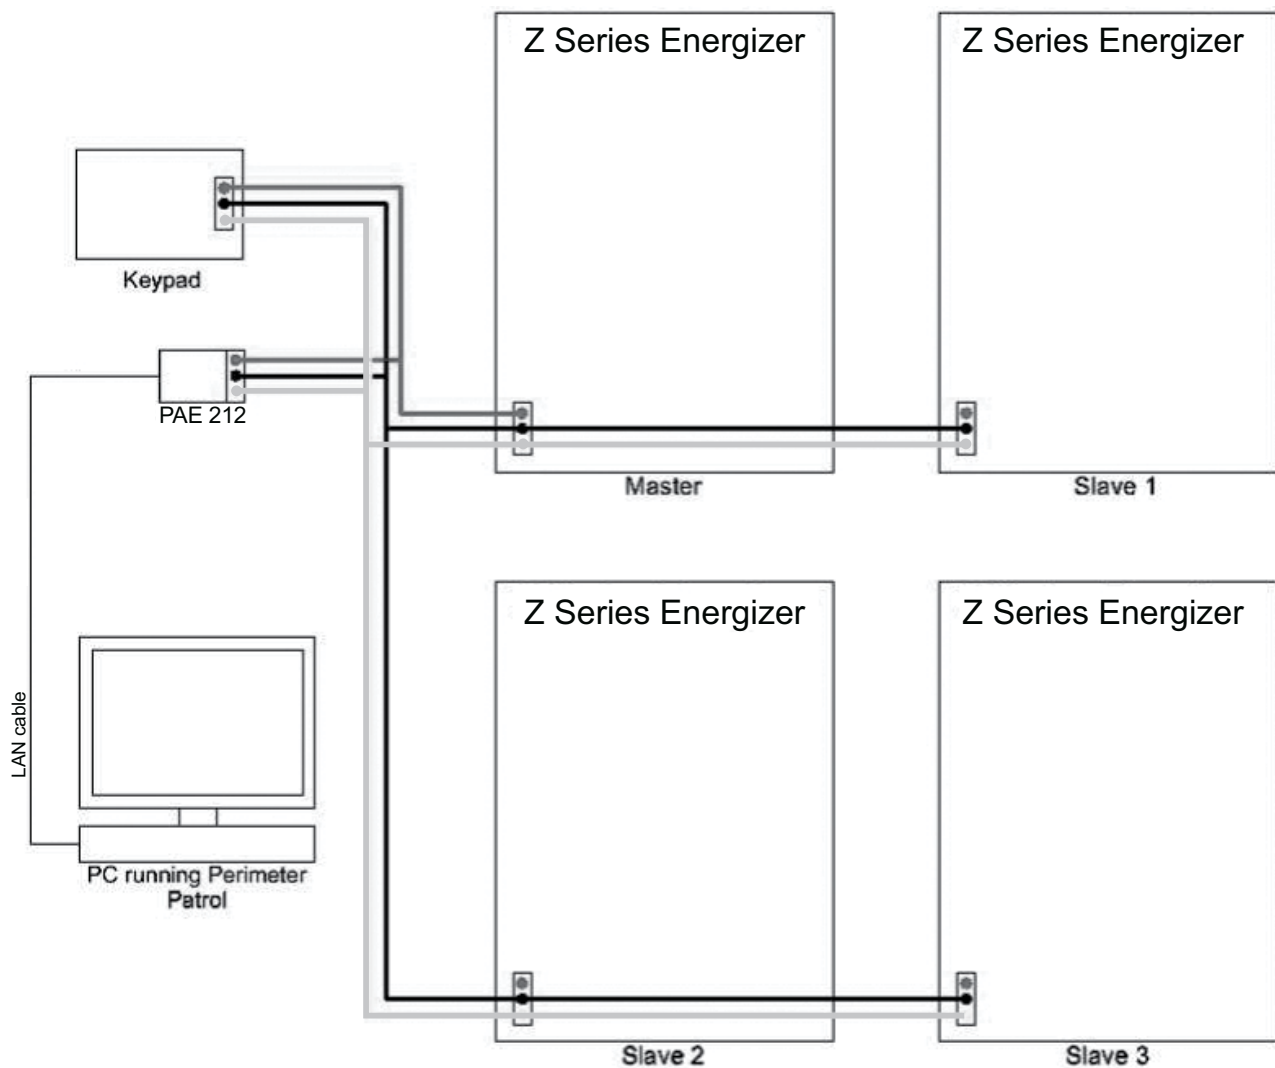

Figure 7: Group Mode Linking
7. Connect the group using the keypad bus as per Figure 7.
For details on group wiring and operation Figure 7.